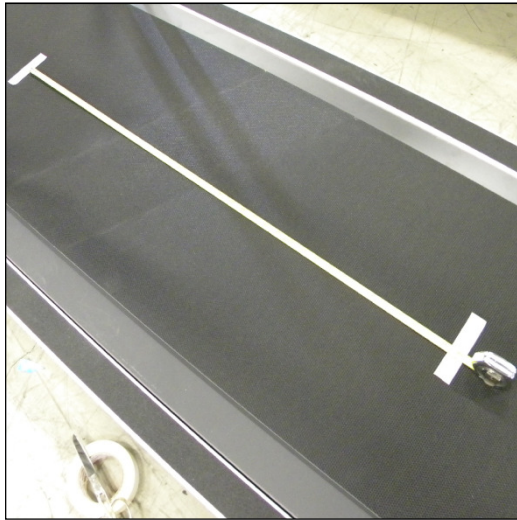

Figure 1
3. Place two markers on the belt exactly 1000 mm from each other (figure 1)